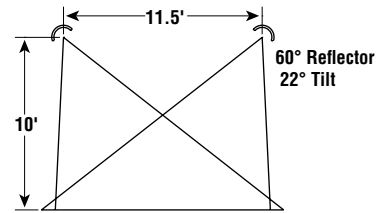

Figure 2 — Tilted Infrared Fixtures for Spot Heating
- In areas where the width dimension is 25 feet or less, use at least two fixtures mounted opposite each other at the perimeter of the area and tilted at an angle. This provides a greater area of exposure to the infrared energy by personnel in the work area. Tilt the fixtures so that the upper limit of the fixture pattern is at approximately six feet above the center of the work station area (Figure 2).